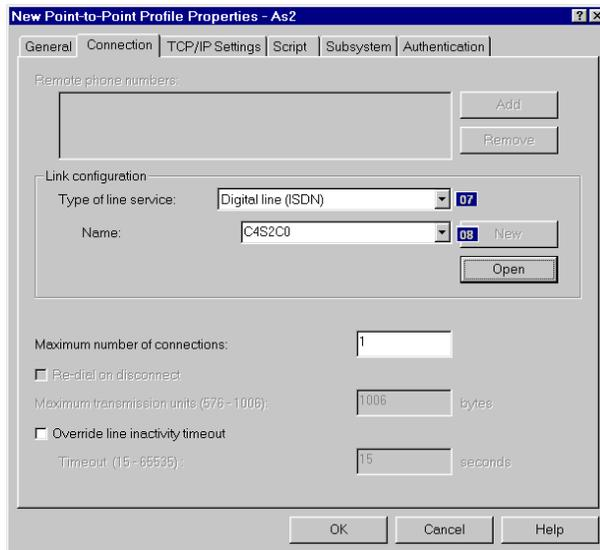

Figure 103. Selecting the line name on the Connection tab
2. Click the **Connection** tab (Figure 103 on page 118).
8. Click **OK**. Then, the New Point-to-Point Properties Connection page shown in Figure 103 on page 118 is displayed.